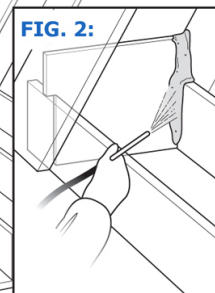

FIG. 3:
6) Apply closed cell foam to roof deck in 1" cured layers to desired thickness. (*Fig. 3*)